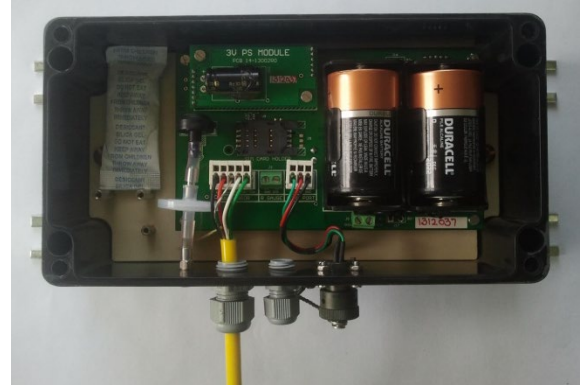

Figure 10-1: Battery replacement for Alkaline battery option
- 3 Hold data logger in the position as shown in Figure 10-1(left). Open the top cover.
- 4 Replace batteries (Alkaline/Lithium) with the new one as shown in Figure 10-1(right) and close the top cover.